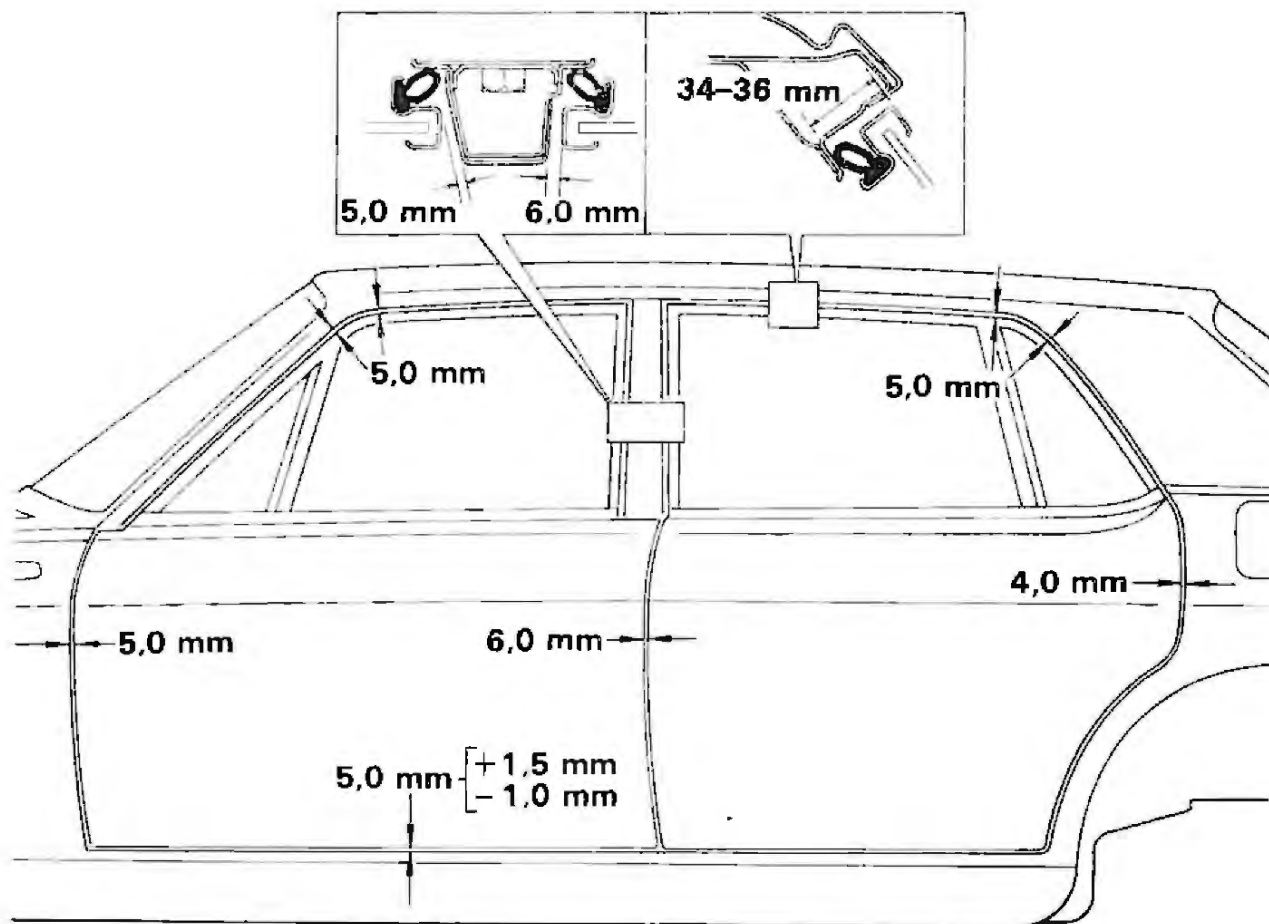

Fig. 1
- 1 Check the fitting of the door and window frame to the body and set the frame to the dimensions shown in figure 1.
It is essential that the door frames are set as shown in figure 1. If the frame to seal landing face is less than 34 mm, then the seal is likely to fold over on closing the door.